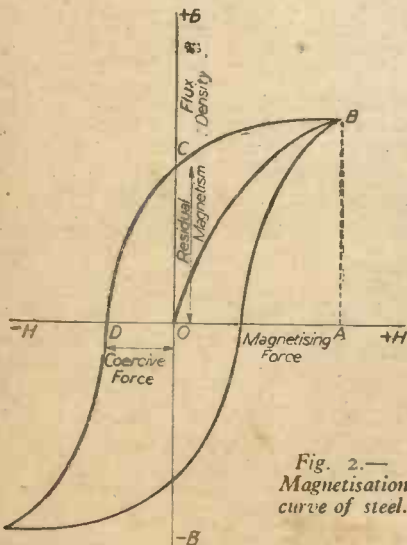
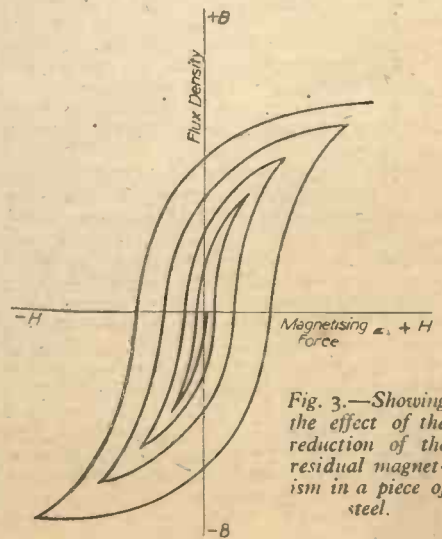

Fig. 2.—Magnetisation curve of steel.
Fig. 3.—Showing the effect of the reduction of the residual magnetism in a piece of steel.
Fig. 2 shows the magnetisation curve of a specimen of steel. The horizontal axis represents the magnetising force (H) and the vertical axis represents the resultant flux (B) in the specimen due to that force. The
However, referring to Fig. 3, if, after completing the hysteresis loop of Fig. 2, the magnetising force is increased to a slightly lower value than the previous maximum and
then decreased to zero, it will be seen that the residual magnetism is reduced. If the cycle of operations is continued, the value of the magnetising force being varied between positive and negative values while the maximum value is successively decreased, a curve such as that shown in Fig. 3 is obtained. It will be seen that the value of residual magnetism is continually reduced until, when the swing of the magnetising force becomes zero, the resultant flux in the specimen is zero, and it is in fact demagnetised.